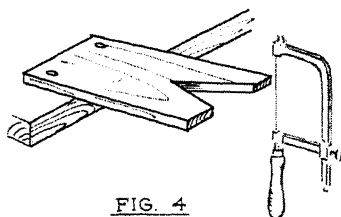

FIG. 4
2. Transfer the design to the metal and saw it out with a jeweler's saw (Fig. 4).